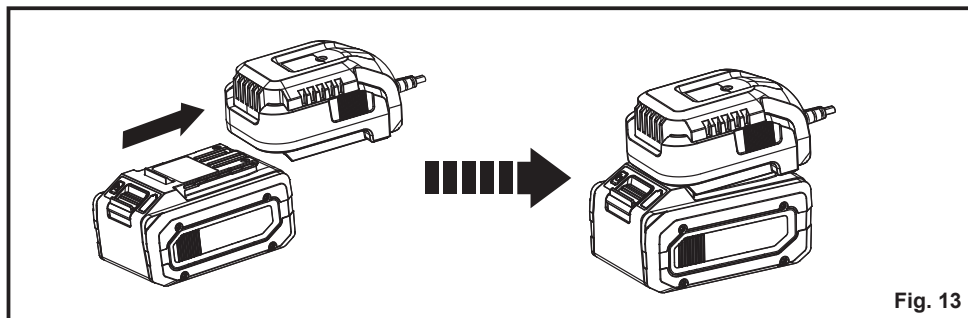

Fig. 13
1. Align the slot of the battery pack with the rail on the charger. Slide the battery onto the rail until the battery secures into place (Fig. 13).